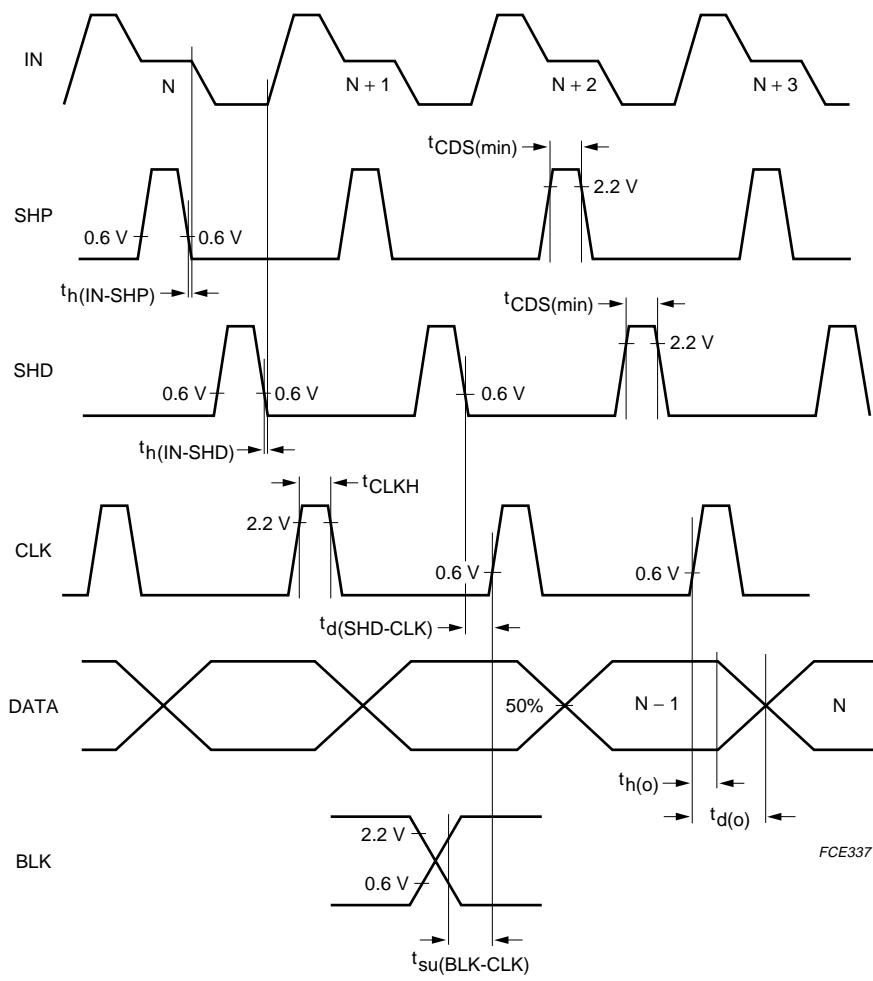

Fig.3 Pixel frequency timing diagram with active HIGH-level polarities.
Digital outputs (<math>f_{\text{pix}} = 18 \text{ MHz}</math>; <math>C_L = 10 \text{ pF}</math>); see Figs 3 and 4
- (1) Pins SEN and VSYNC should be interconnected when no vertical synchronization signal is available, while control pin VSYNC should be programmed by serial interface as LOW-level active.
- (2) The timing of the signals on pins IN, SHD and SHP has to comply with the hold times  $t_{h(IN-SHP)}$  and  $t_{h(IN-SHD)}$  (see Fig.3).